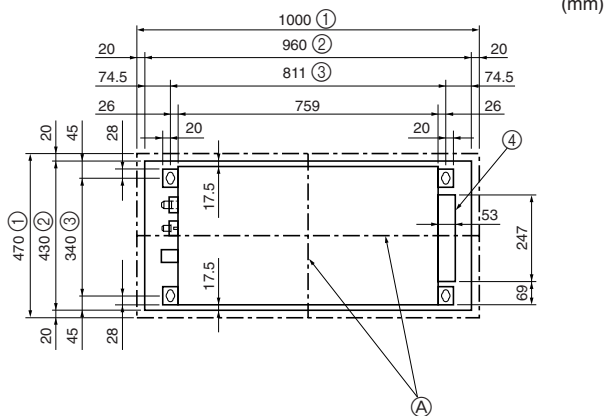
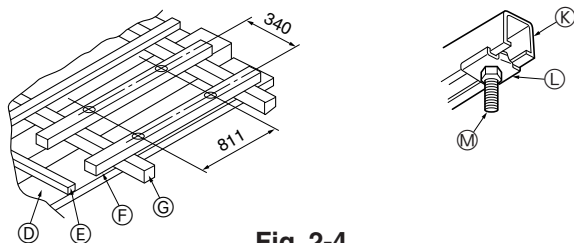

Fig. 2-3
Fig. 2-4
2.3. Ceiling openings and suspension bolt installation locations (Fig. 2-3)
- ① Outer side of grille
- ② Ceiling opening
- ③ Bolt pitch
- ④ Electric box
① Wooden structures (Fig. 2-4)